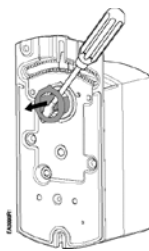

Figure 3. Removing 1/2-inch Ø Shaft Guide for 3/8-in or 5/8-in Shaft.
1. remove factory installed 1/2-inch guide. See Figure 3.
1. Remove factory installed 1/2-inch guide. See Figure 3.